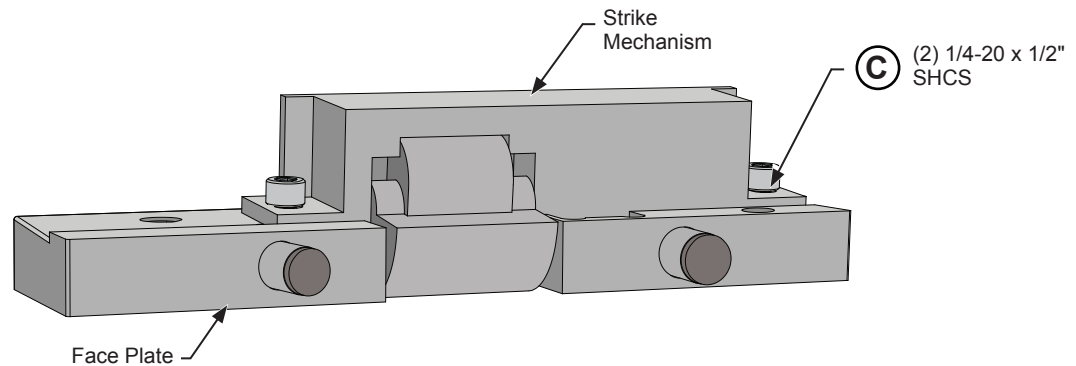

FIG. 9
3. In case of misalignment, a 3/16" (4.8) horizontal adjustment may be made between the strike mechanism and the face plate. **(Fig. 9)**